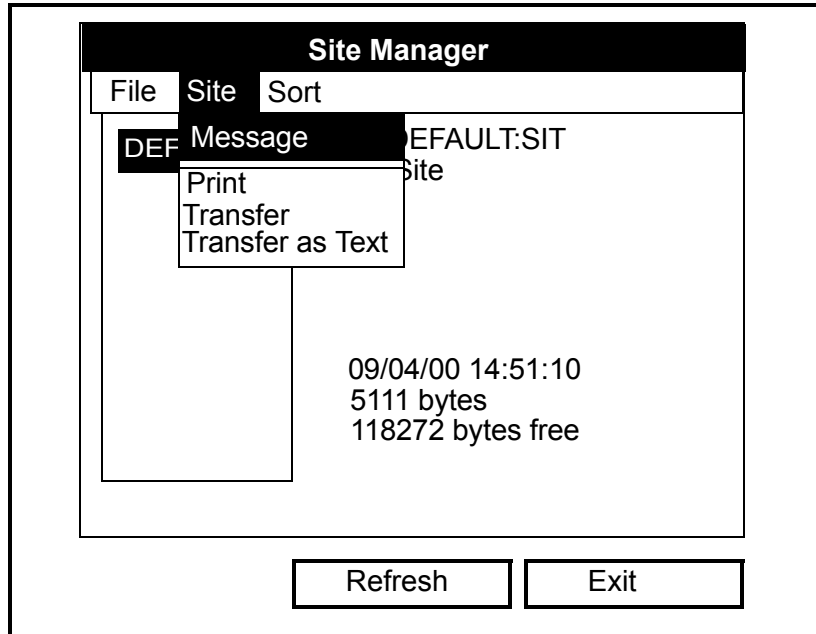

Figure 4-11: The Site Manager>Site Menu
3. Press [ENTER] and a window similar to Figure 4-11 below opens.
2. Press the [▶] arrow key once to scroll from the *File* menu to the *Site* menu (see Figure 4-11 on page 4-10).